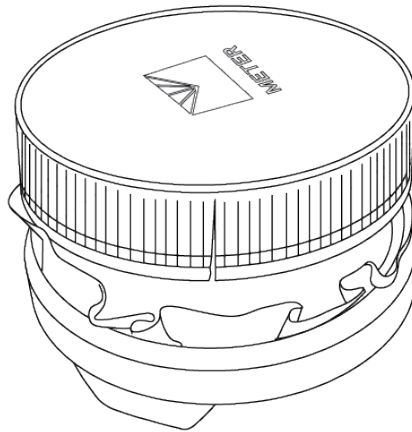

Figure 7 Cut soil sampling ring lid
4. Cover the sample ring with the cut sample ring lid from the combination set (Figure 7).